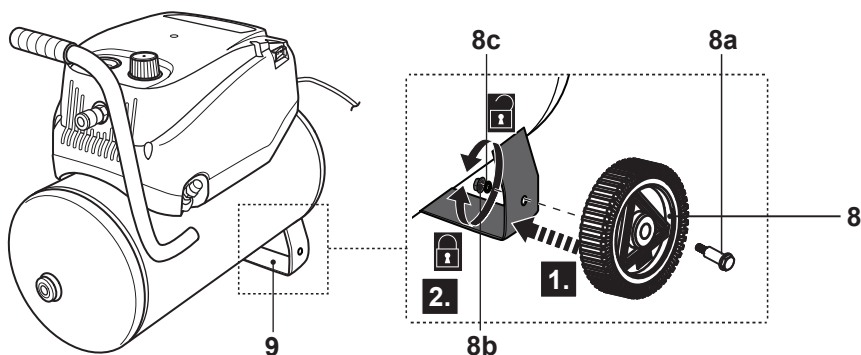

Fig. 1
- > Align the bolt (8a), the hole of the wheel (8) with the hole on the rear support (9) and insert it. (Fig. 1, step 1). Screw the locking nut (8b) with washer (8c) to the bolt (8a) hand tight. (Fig.1, step 2).
- > Repeat previous steps for assembling the second wheel. Lift the product by its handle (15) and ensure both wheels rotate smoothly.